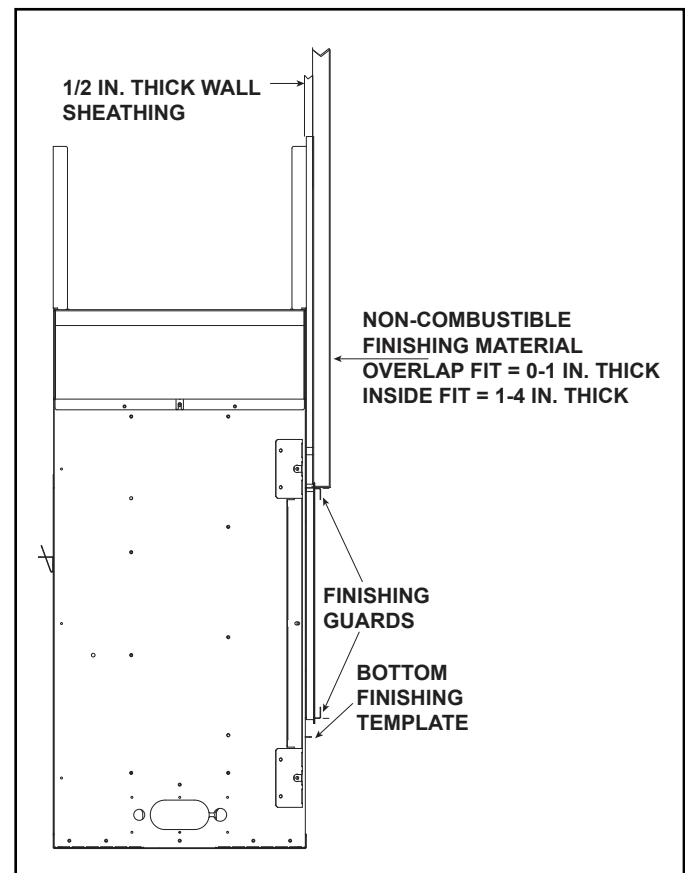
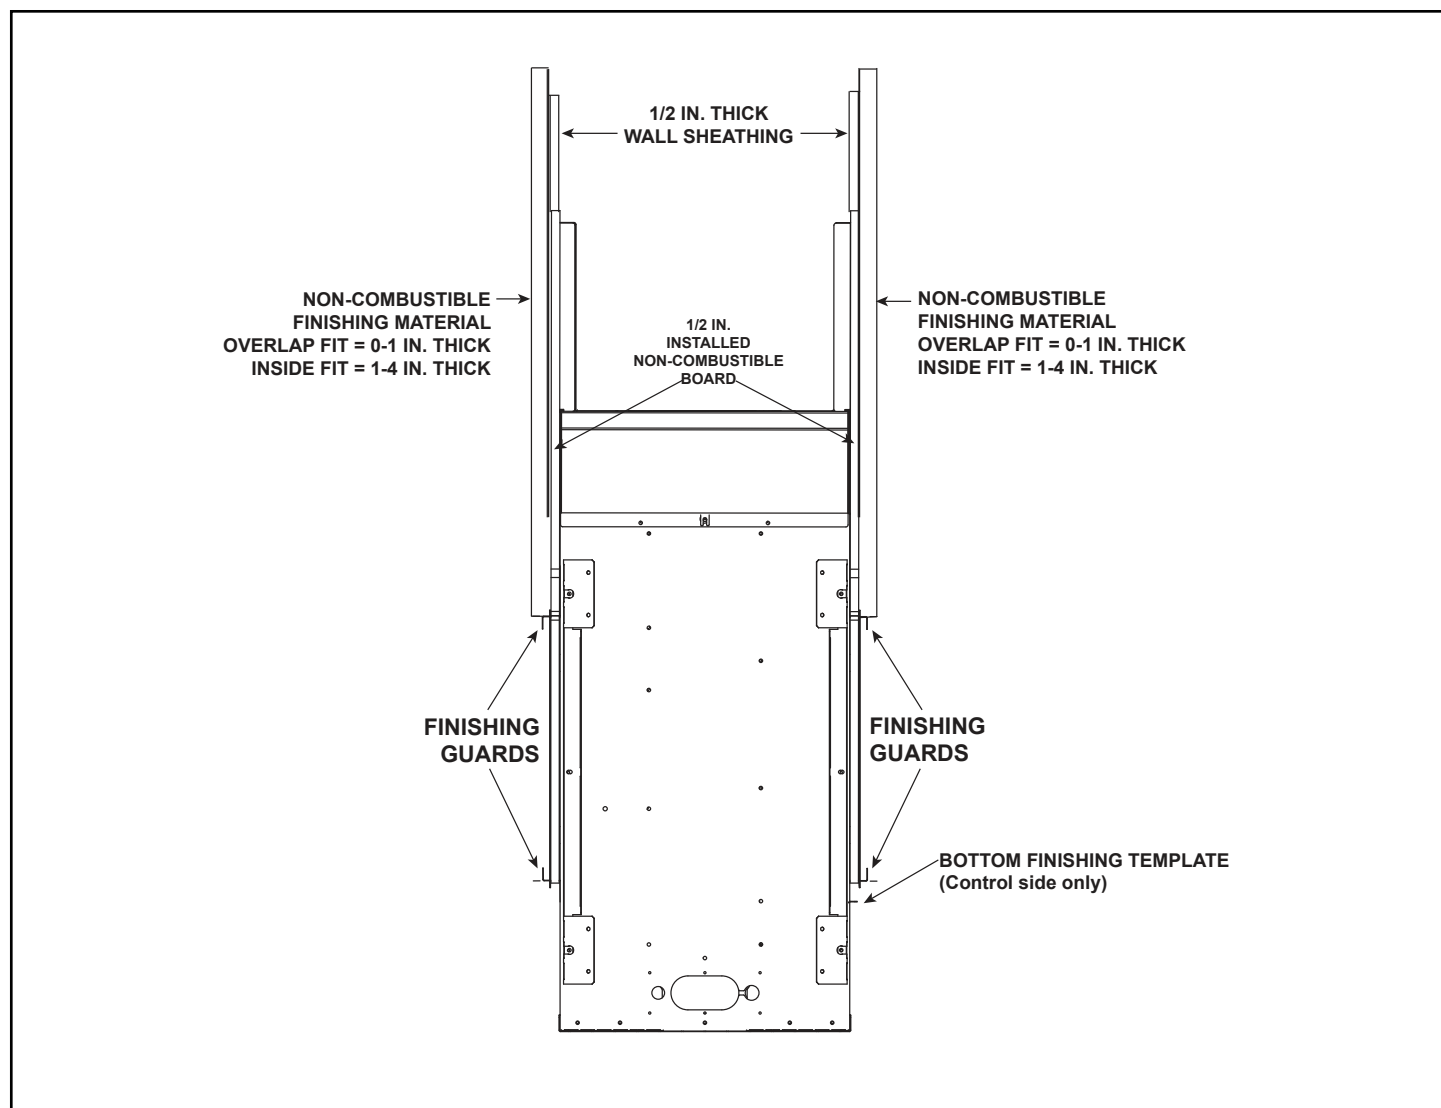

Figure 10.2 Finishing and Facing Materials - Single-Sided Models
Figure 10.3 Finishing Materials - See-Through Models
Decorative facing material thickness is measured from the face of the installed non-combustible board. See Figure 10.2 and Figure 10.3.
The fronts for this appliance are compatible with non-combustible materials. See Figure 10.2 and Figure 10.3.
Installation of finishing materials can be accomplished by either the "overlap" or "inside-fit" method, depending on what type of decorative barrier front is to be installed. See Figure 10.2 and 10.3. Overlap fit decorative barrier fronts include the Quattro and Loft Forge. The Clean Face Trim Front (CFT) can be either an inside fit or an overlap fit. See Table 1.
- 1. Remove bottom finishing template from bottom access panel. Verify that factory-installed finishing guards are installed to ensure finishing material does not extend into the fireplace opening. See Figure 10.2 and 10.3.
1. Remove bottom finishing template from bottom access panel. Verify that factory-installed finishing guards are installed to ensure finishing material does not extend into the fireplace opening. See Figures 10.2 and 10.3.